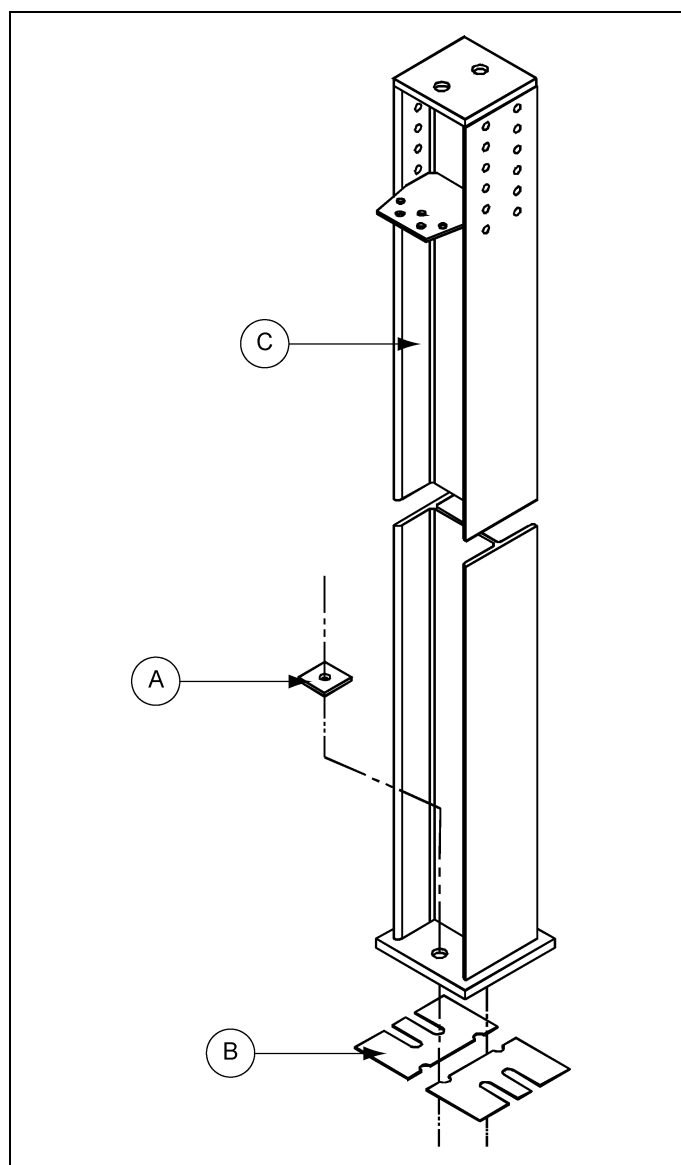
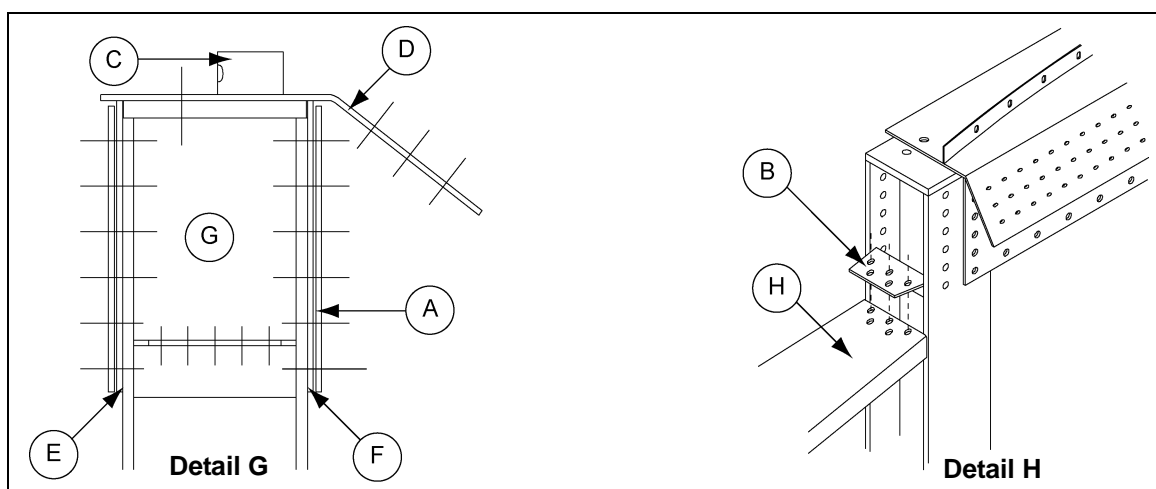

Figure 6A Column Shim Plate Detail (Use when Necessary)
Figure 6C
Before placing the support columns on the anchor bolts, use a transit and surveyor's rod to locate high and low areas in the concrete. To assure level alignment for the support columns, use the proper supplied shim or shims between the concrete and base plate. After leveling is completed, place the support columns over the anchor bolts, with shim plates (B) underneath column. Next place washer (HT-635) over anchor bolts and loosely fasten with nuts and washers (not furnished). Refer to Figure 6A. Seal any gaps between compression elements and the seal strip at column locations with silicon or other conventional means.
Use a transit and surveyor's rod to locate high and low areas in the concrete, before placing the support columns on the anchor bolts. To assure level alignment, use the proper supplied shim or shims between the concrete and base plate. After leveling, place the support columns (C) over the anchor bolts, on the shims and loosely fasten with nuts and washers (not supplied). Refer to Figure 6A on Page 39.
Using 5/8"-11 x 2" hardware (S-4329) (A), fasten the inside and outside vertical compression angle segments and splice plates to the support columns (G), See Figure 6A on Page 39 and Detail G in Figure 6C. Next, attach the horizontal channels with 5/8"-11 x 1-1/2" hardware (S-4109) (B) to the inside and outside vertical compression angle segments (E and F) and the support clips (B) on the support columns (G), as shown in Detail H in Figure 6C. Do not tighten bolts until hopper panels are installed to allow alignment.